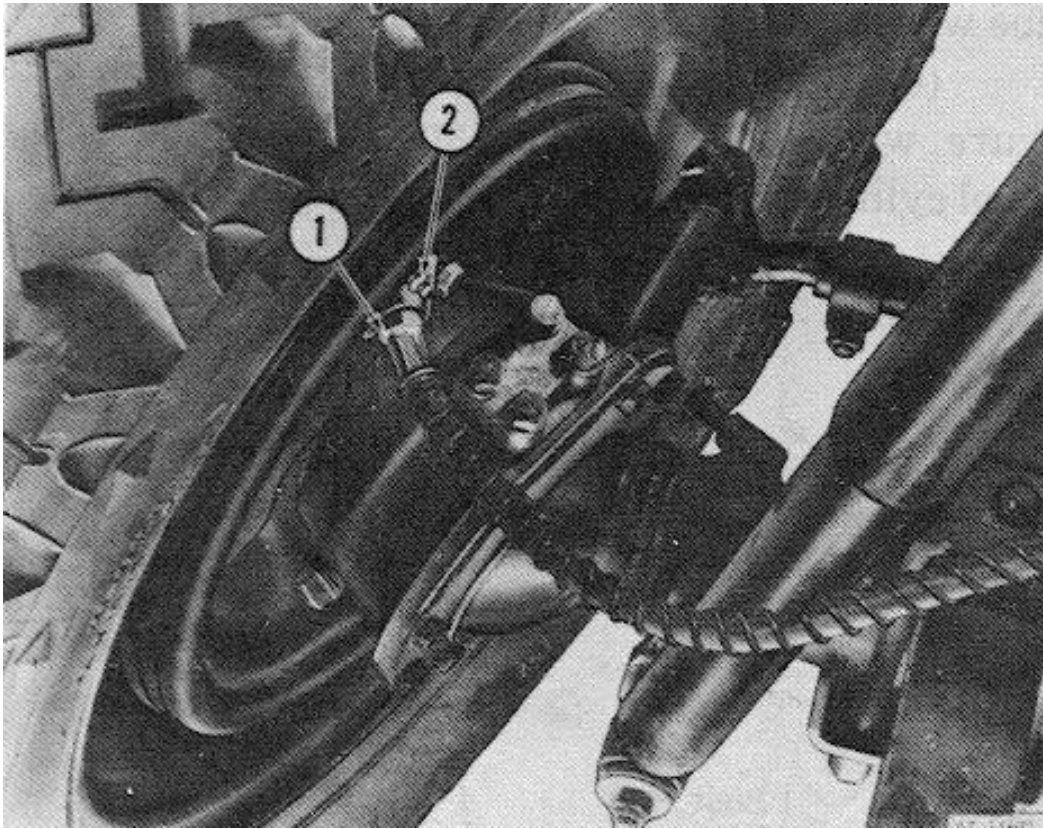

FIGURE 2-81. Bleeding Brakes
- (1) Pressure bleeding. Insure that the pressure filler contains an adequate supply of brake fluid.
- (h) Attach a bleeder hose to the bleeder screw of the right rear wheel cylinder (fig 2-81). Submerge the free end of bleeder hose in a glass receptacle containing a small amount of clean unused brake fluid. Open the bleeder screw and allow fluid to flow into the receptacle until the fluid is entirely free from air bubbles.
- (2) Manual bleeding.
- (d) Open bleeder screw (fig 2-81) and depress the brake pedal a full stroke. Close the bleeder screw and release brake pedal.